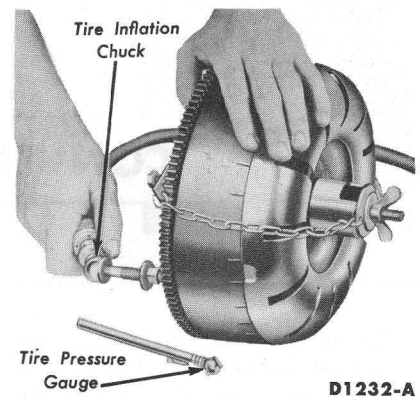

FIG. 7—Leak Checking Tool Installation
1. Place the tool (Fig. 7, Part 6-2) on the rear servo piston rod so that the two forks straddle the band apply lever. The inner fork must engage the flat on the servo piston rod. The outer fork must be inserted between the rod seat (half-ball) and the adjusting nut. This fork provides a 1/4-inch spacer between the rod seat and the adjusting nut.
3. Introduce air pressure into the converter housing. Check the pressure with a tire gauge and adjust it to 20 psi (Fig. 7).